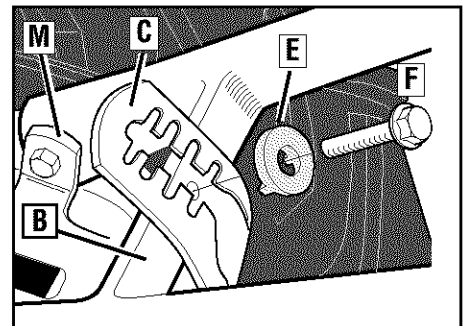
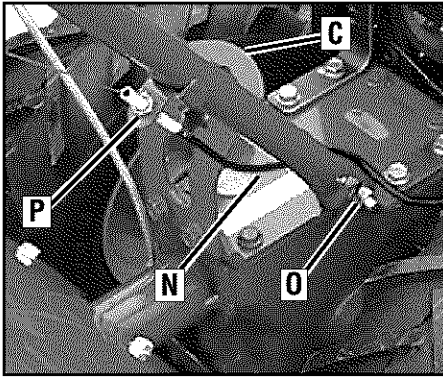

Figure 2-2: Forward clutch control cable not shown for clarity.
Figure 2-3 Attach handlebars.
2. Gently lift handlebar (do not overstretch attached cable) and place handlebar cross-brace (B, Figure 2-2) in front of curved height adjustment bracket (C).
3. With forward clutch cable (N, Figure 2-3) on inside of handlebar, position handlebar ends on outside of the two mounting tabs (M, Figure 2-2) on transmission top cover.
4. Loosely attach the handlebars to the mounting tabs with two 3/8"-16 x 1" screws (heads of screws go to inside of tabs), 3/8" flat washers and 3/8"-16 lock nuts (O, Figure 2-3).
5. Move the handlebars up or down to align the threaded hole in the cross-brace with one of the four slots in the curved height adjustment bracket. Place the keyed washer (E, Figure 2-2) on the flange head height adjustment screw (F) with the raised keys (edges) of the washer facing down.
6. Thread the height adjustment screw (F, Figure 2-2) into the hole in the handlebar cross-brace, making sure that the raised keys on the washer fit into the slot on the height adjustment bracket. Tighten the height adjustment screw securely. Next, securely tighten the two screws and nuts in the ends of the handlebar (M, Figure 2-2).